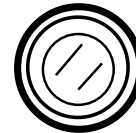

Figure 22. Start Switch
5. Next, press the generator's pushbutton start switch (Figure 22) and listen for the engine to start. If starting the welder-generator using the recoil start method, proceed to step 11.